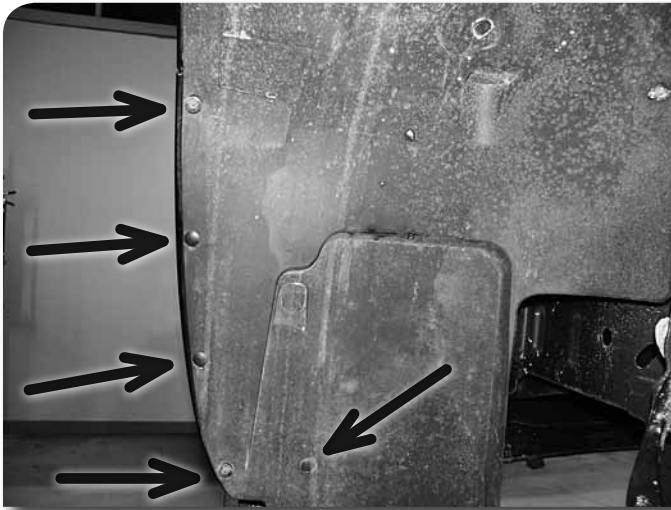

Figure 3
9. Remove 3 push plugs and 2 bolts indicated per wheel-well Figure 3.